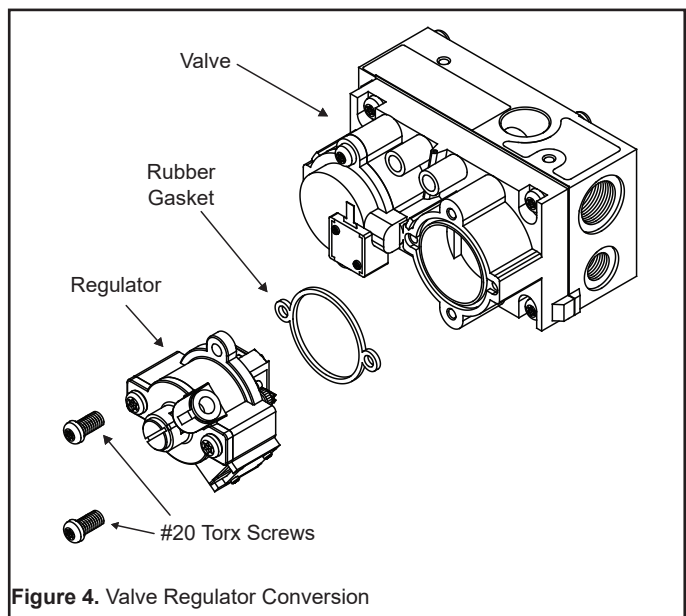

Figure 4. Valve Regulator Conversion
1. Locate the gas valve. Using a #20 tamper-proof Torx screwdriver, remove the regulator and rubber gasket on face of valve. See Figure 4. Discard both the regulator and rubber gasket.
2. Install the new regulator along with the new rubber gasket included in the conversion kit. See Figure 4.